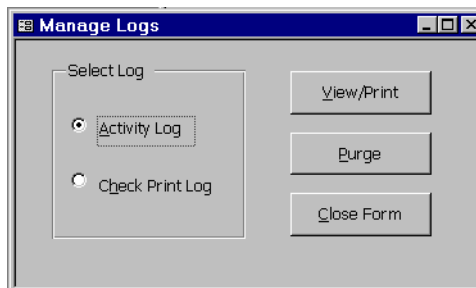

Figure 5-8
3. In the Manage Logs dialog box (Figure 5-8), select **Activity Log**, then click **View/Print**.